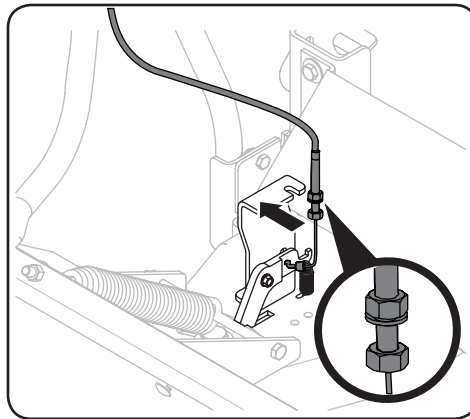

Figure 2-20
2. Slide the top nut and washer up and then slide into mounting slot located on the lever lock assembly (689-00691) mounting bracket. See Figure 2-20.